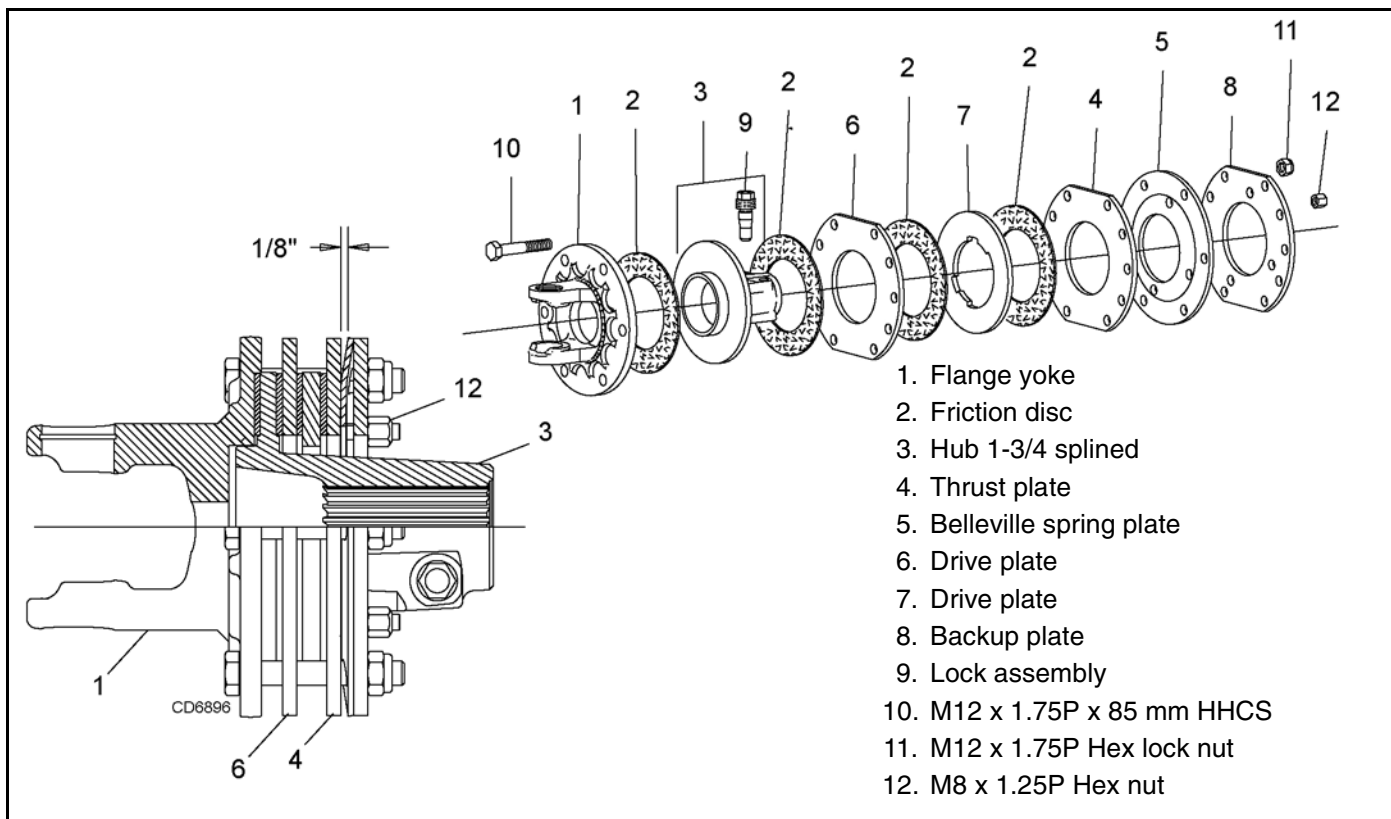

Figure 9. Slip Clutch Assembly
2. Tighten four nuts (12) to remove pressure from the clutch plates (2). Repeat for all three clutches.
4. If clutches slip freely, completely loosen nuts (12).
5. If clutch does not slip freely, disassemble and clean plates (4, 6, & 7), flange yoke (1), and clutch hub (3).
7. Tighten Belleville spring (5) with nuts (11) until it is against the thrust plate (4) of the clutch. Back off each of the four nuts (11) until gap between Belleville spring and thrust plate is 1/8" as shown in Figure 9.
8. If a clutch continues to slip when the spring is compressed to 1/8" gap, check friction discs (2) for excessive wear. Discs are 1/8" when new. Replace discs after 1/16" wear. Minimum disc thickness is 1/16".